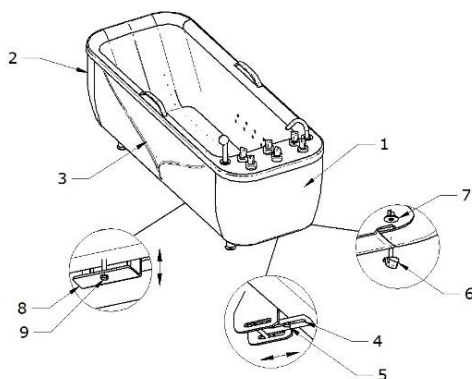

Figure 8 – BALMED ECO and STANDARD 300 I bathtub view with cover elements
1. Loosen the screw (pos.5 fig.8) and slide out the front cover holder (pos.4 fig.8).
2. Remove the plastic wing screw (pos.6 fig.8) and plastic wing nut (pos.7 fig.8).
1. Loosen the screw (pos.9 fig.8) and slide down the side cover holder (pos.8 fig.8).